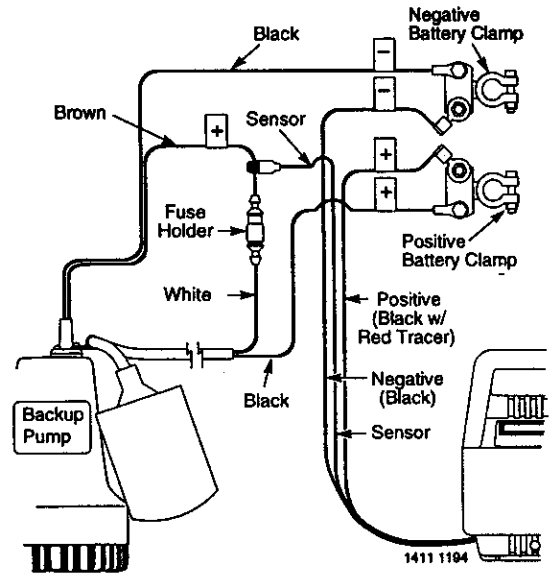

Figure 3 – Wiring Connections
1. Connect charger as shown in Figure 3.